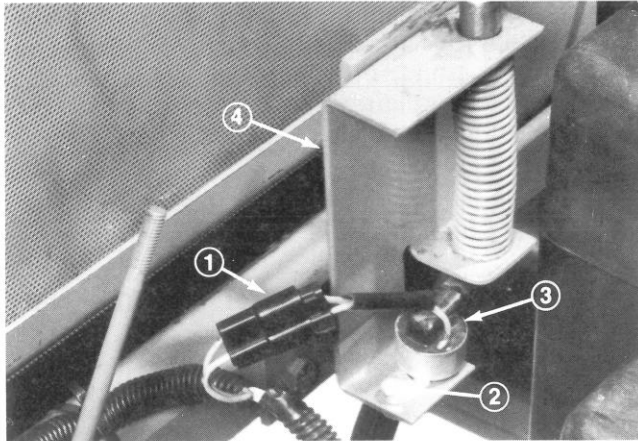

Figure 34
2. Remove instrument cover, disconnect negative battery cable from battery and separate wire harness connectors (Fig. 34). Remove capscrew and locknut (Fig. 34) and lift switch up to disengage locating pin on bottom of switch from hole in mounting bracket.
3. To install new switch, set it on mounting bracket (Fig. 34) and insure locating pin on bottom of switch fits into hole in bracket. Secure switch in place with capscrew and locknut.